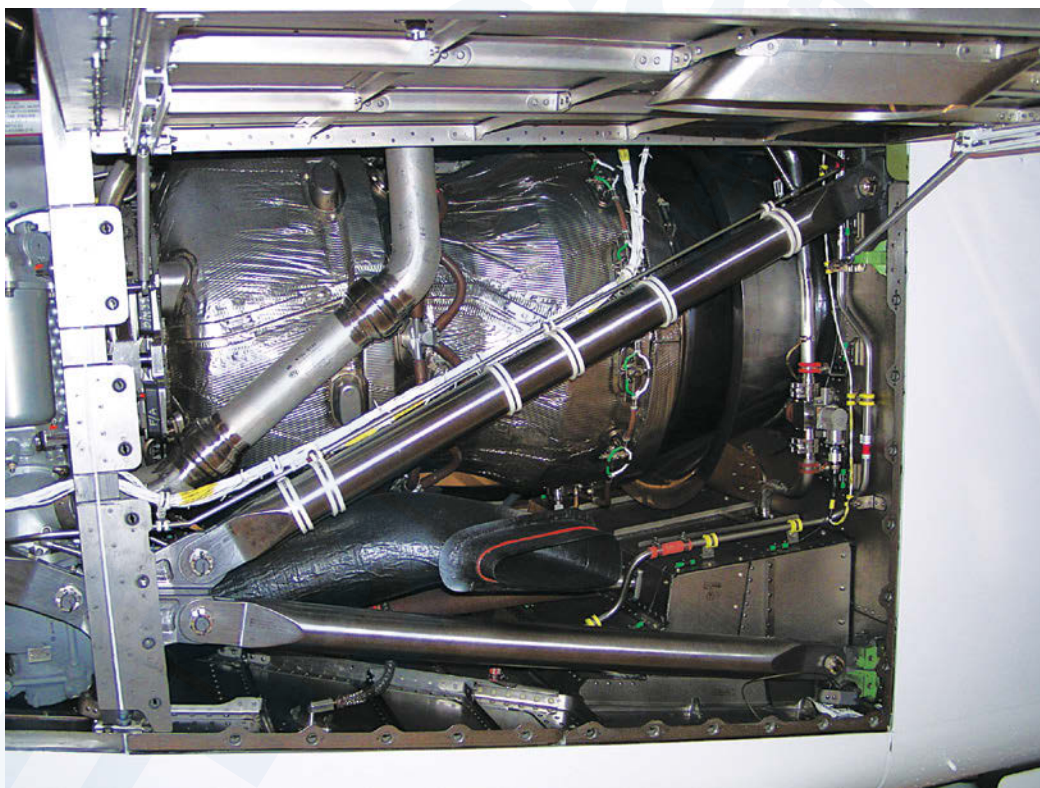

Figure 71-13. Engine Access Aft Side Door Open
- Figure 71-13. Engine Access Aft Side Door Open.